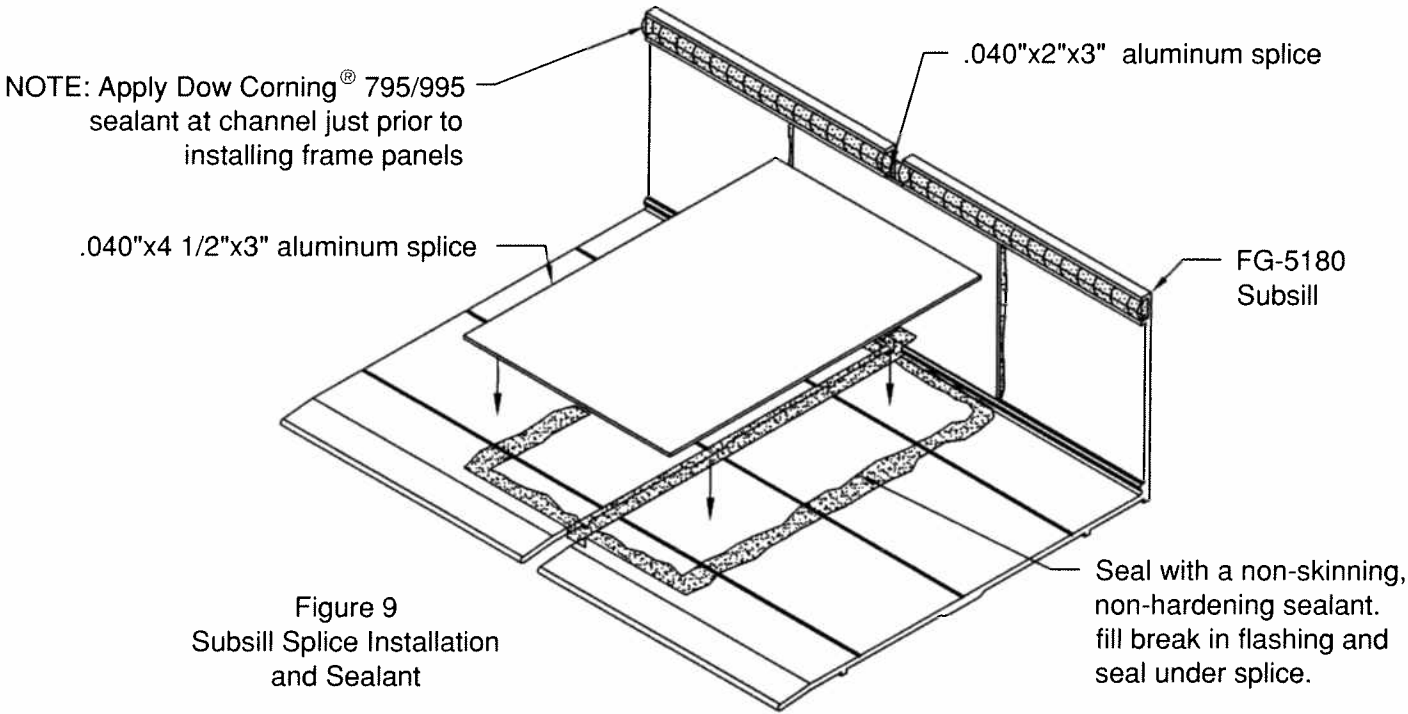

Figure 9
- 3.1.3 Apply sealant to 0.040" alum splice plates as shown at all subsill splices. SEE FIGURE 9.